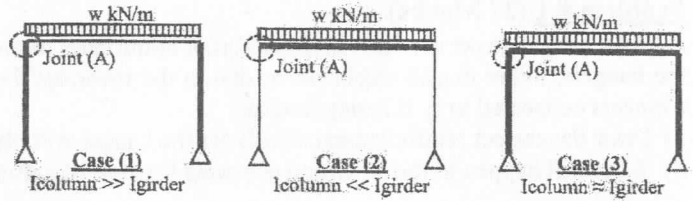

Fig. 4
- (c) For each of the RC structures shown in **Figure 4**, it is required to *draw* shape of the B.M.D under the given uniform load. *Sketch* shape of the longitudinal reinforcement. *Classify* type of the joint (A). *Sketch* shape of the transversal reinforcement at joint (A). (3Marks)